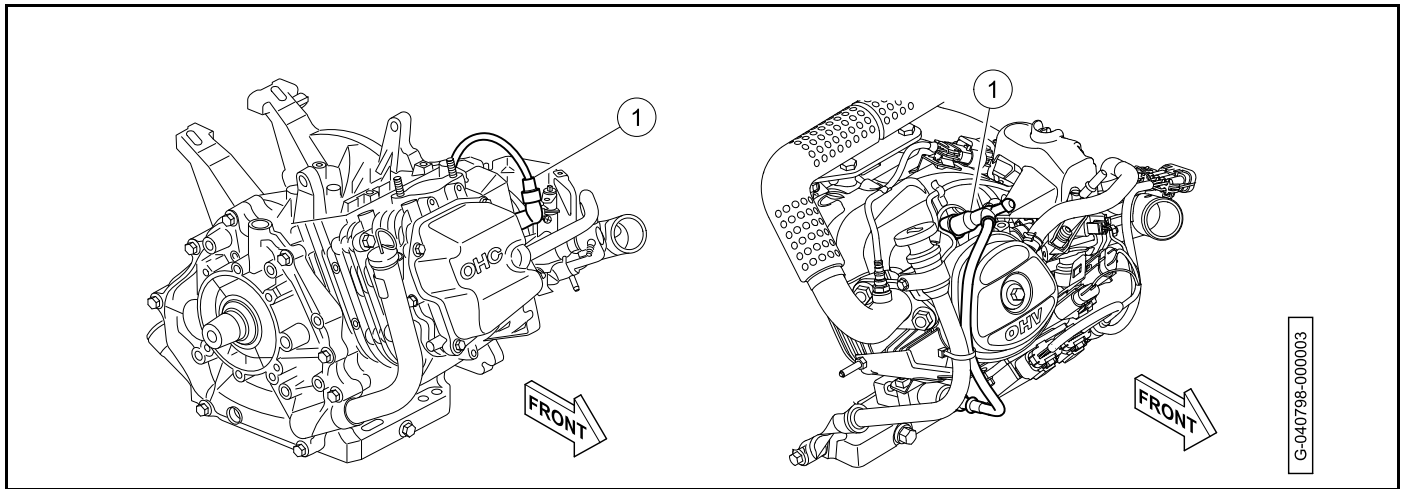

Figure 3-2 Left: Subaru / Right: Kohler
- 14.1. Disconnect the spark plug wire (1) (Figure 3-2, Page 3-5).